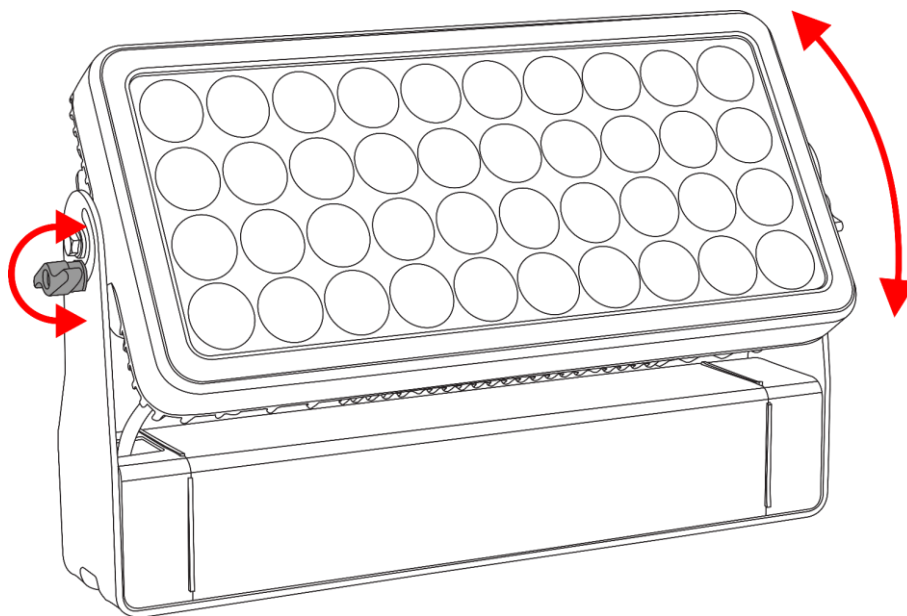

Fig. 13
- 01) Turn the **adjustment screws (08)** counterclockwise to release them.
- 02) Tilt the device at the desired angle (see Fig. 13).
- 03) Turn the **adjustment screws (08)** clockwise to tighten them. Make sure that the device cannot move freely after the **adjustment screws (08)** are tightened.